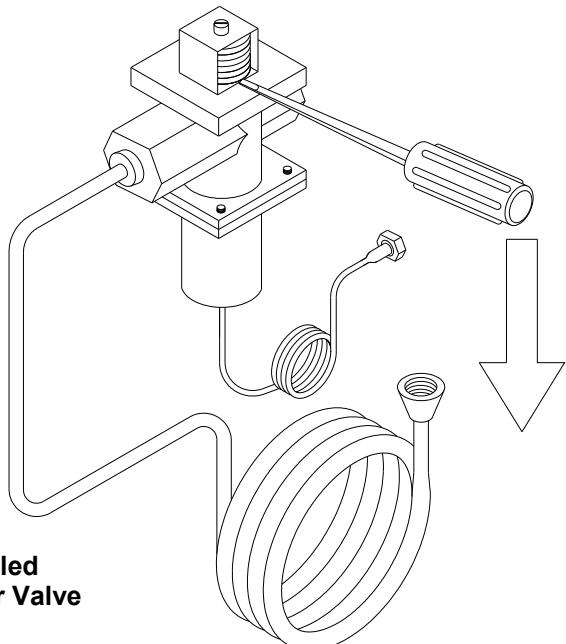

Fig. 27
6. **On water-cooled units, disconnect the water lines. Use compressed air to blow out all remaining water in the condenser. Insert a screwdriver (Fig. 27) to open the water valve.** Note: Failure to purge the machine of water can result in severe damage to the cooling system. This task should be performed by a qualified service technician.